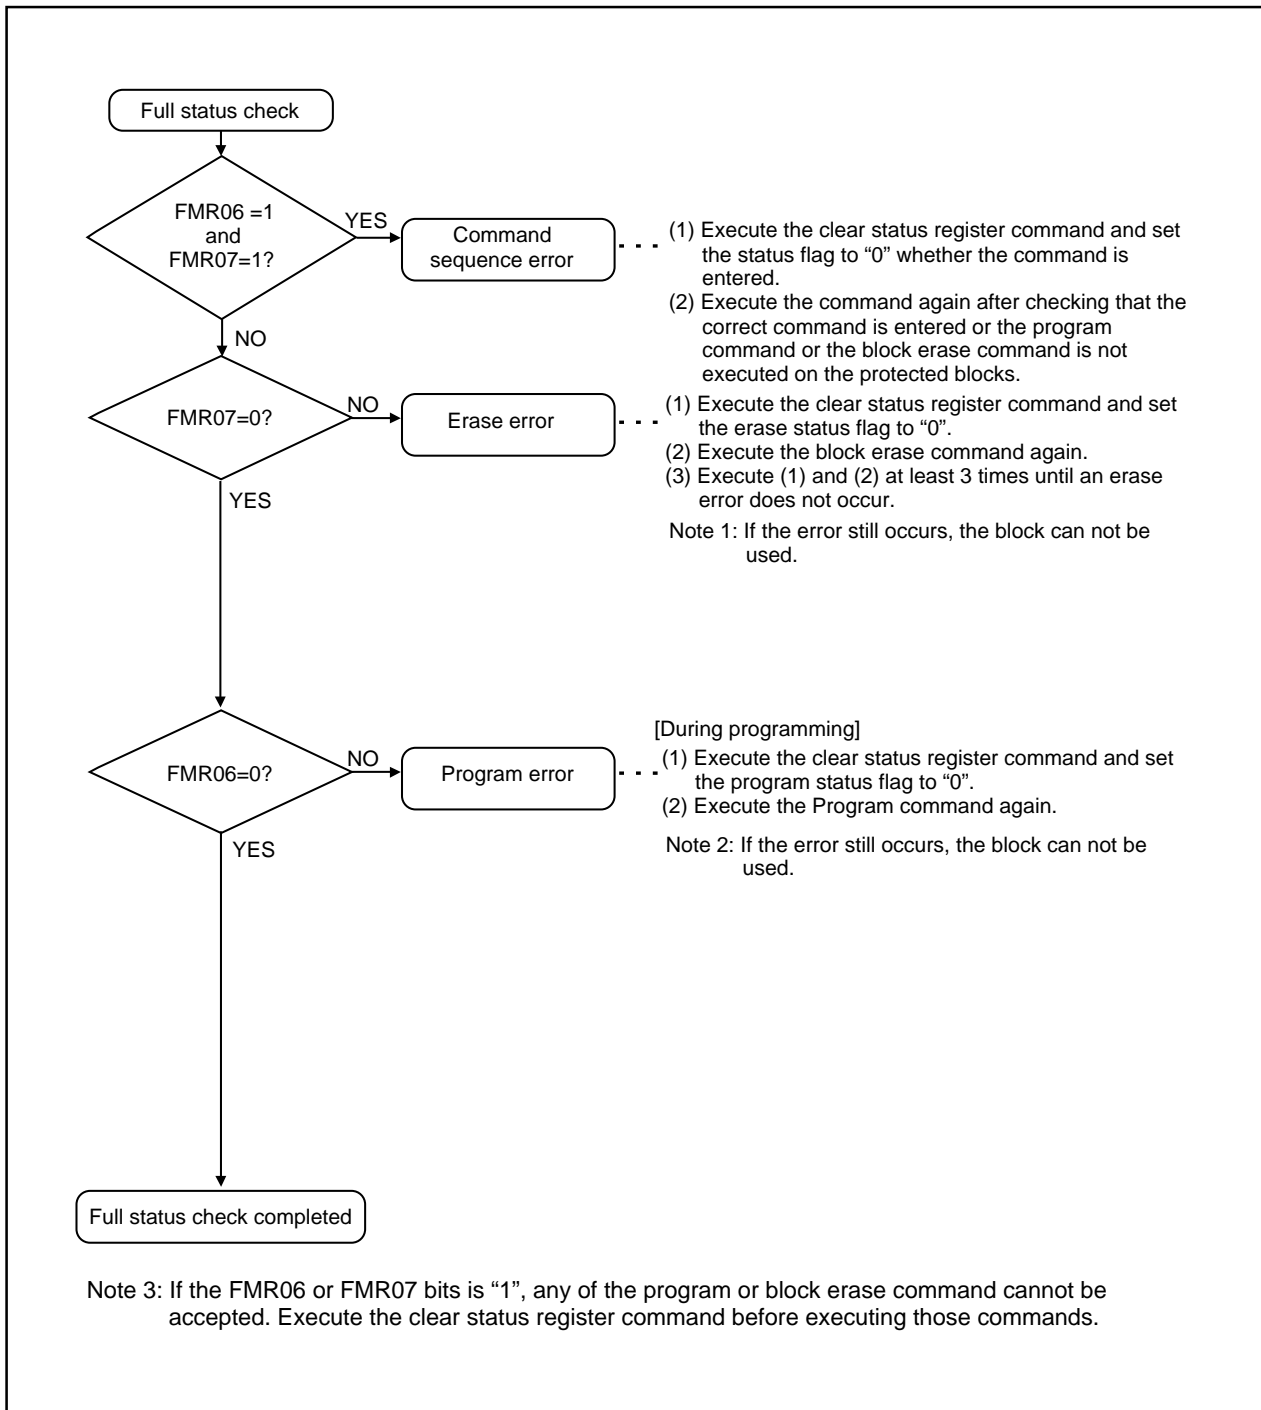

Figure 18.15 Full Status Check and Handling Procedure for Each Error
**Table 18.7** lists errors and FMR0 register state. **Figure 18.15** shows a flow chart of the full status check and handling procedure for each error.